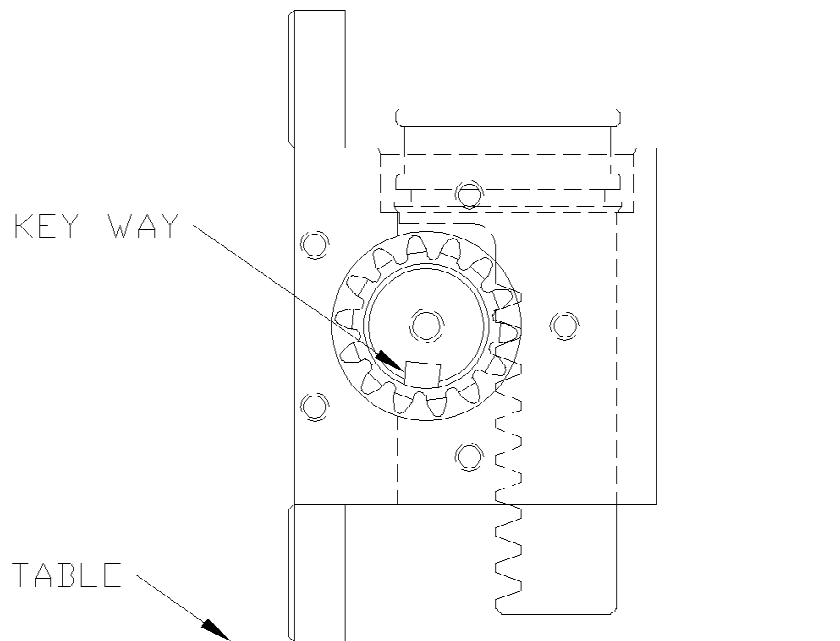

figure A-6
6. Check the position of the racks in the pinion by making sure both racks seat against the actuator body at the same time and also when the racks are seated against the body, the key ways on the pinion shaft should be facing down toward the table and very slightly back toward the mounting flanges on the actuator body as shown in figure A-6.